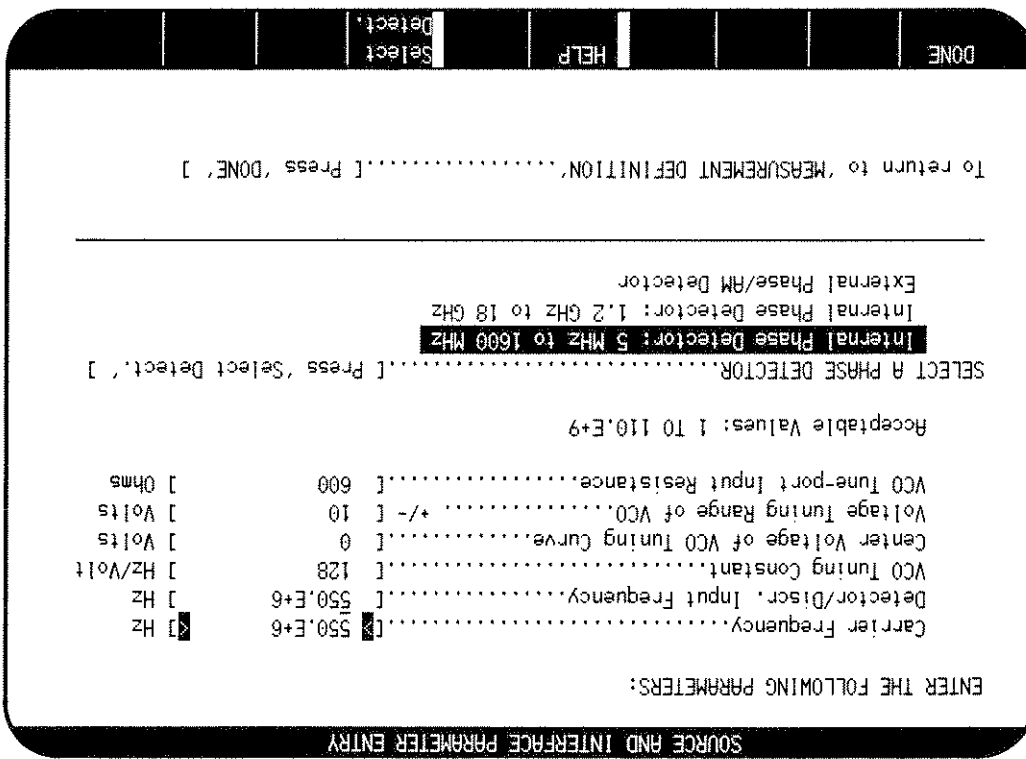

Figure 3-9. Source and Interface Parameter Entry Menu
7. On the HP 3048A press the **Inst. Params** softkey to obtain the Source and Interface Parameter Entry menu. Set the parameters and phase detector as shown in figure 3-9. When done, press the **DONE** softkey.